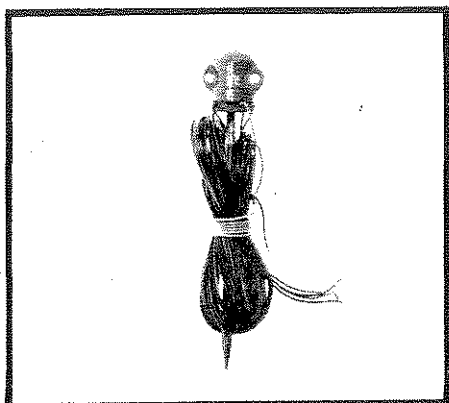

FIG 11
22. Counterpoise, Antenna. (Fig 11). This consists of a metal spike to which are attached four black wires each 3 m long, and one green wire 60 cm long. In use the spike is driven into the ground, the four black wires are laid out in the form of a cross and the green wire is connected to the earth terminal of the transceiver or the Coupler, Antenna, CU-F2. Do not use the counterpoise with a dipole antenna.